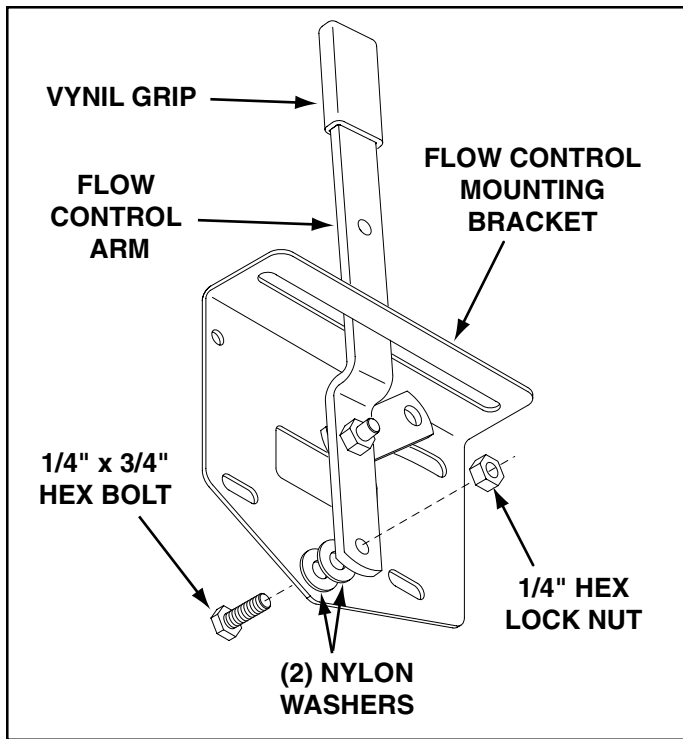

FIGURE 7
16. Assemble the flow control arm to the flow control mounting bracket using a 1/4" x 3/4" hex bolt, two nylon washers and a 1/4" hex lock nut as shown in figure 7. **Tighten carefully.** The flow control arm should be snug, but should pivot with no more than a slight resistance.
17. Assemble the vinyl grip. See figure 7.